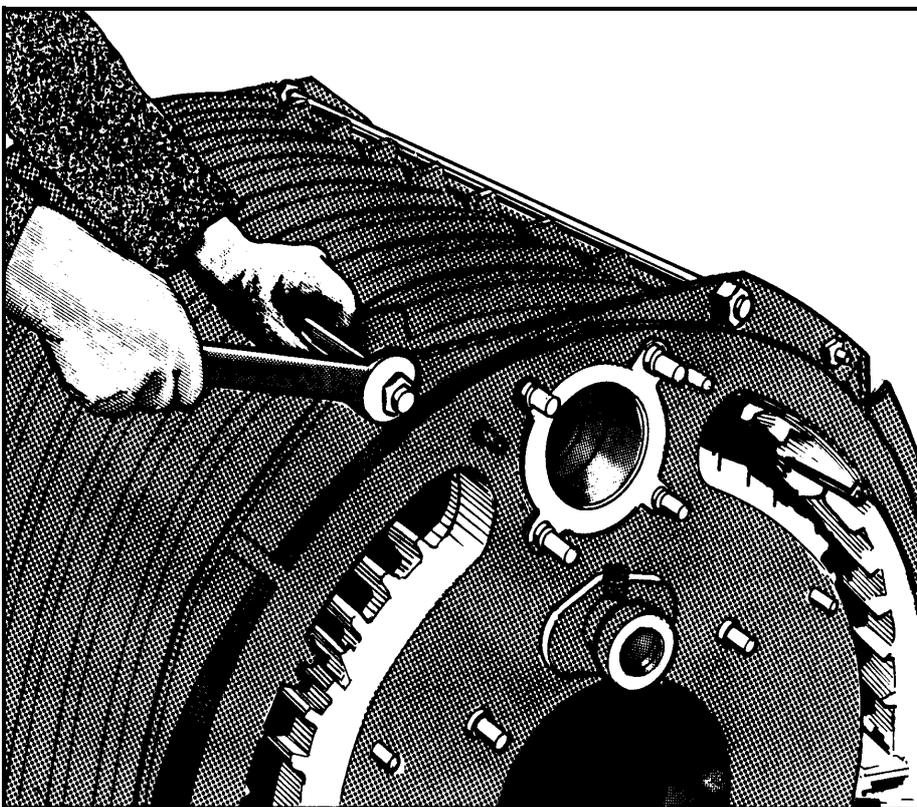

Figure 10.8 – Fitting Upper Tie Rods
- * Flue plates (19) are correctly positioned.
h. After fitting front section (2), fit the four tie rods (30) through the lugs on top and bottom of front and rear sections (Figs 10.8 & 10.9). Tighten tie rod nuts to a torque of 45 Nm (34 lbf.ft)